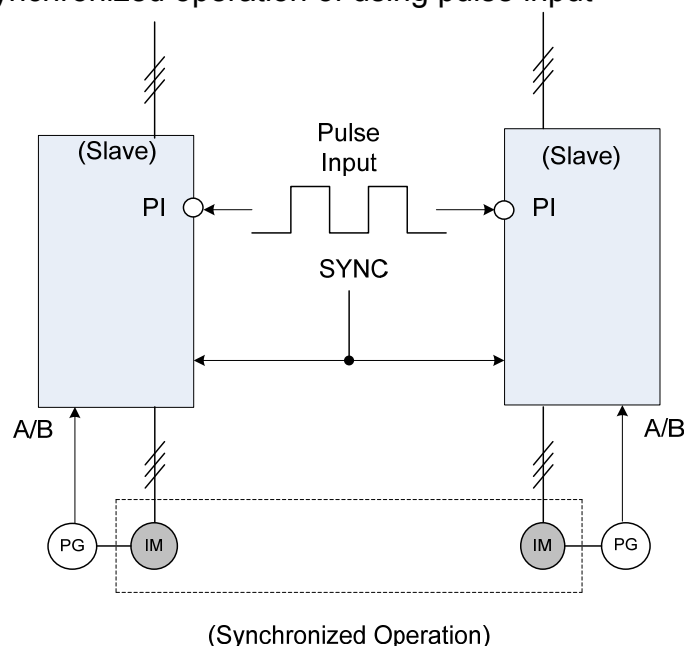

Figure 4.3.33 The synchronized operation of using pulse input
- Change the serial pulse received from pulse input (terminal PI) into a synchronized frequency command so that the synchronization command (SYNC) ensures the frequency reference can be executed. For the synchronization operation of using pulse input, please refer to Figure 4.3.33.